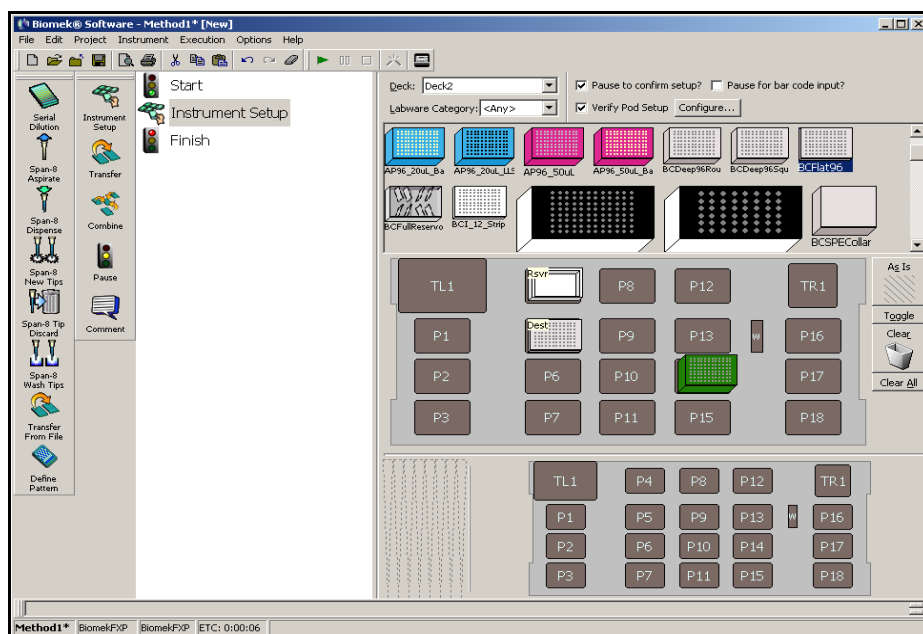

Figure 5-7. Instrument Setup step completed
4. In **Labware Properties**, you can give the reservoir a name. You'll name this one "Rsvr," but in general you can assign labware any name you want. Type **Rsvr** in the **Name** field. After configuration is complete, the name will appear over the reservoir in the Current Deck display (Figure 5-7).
That's it. Your deck is now set up for transferring liquid, and the main editor should look like Figure 5-7.